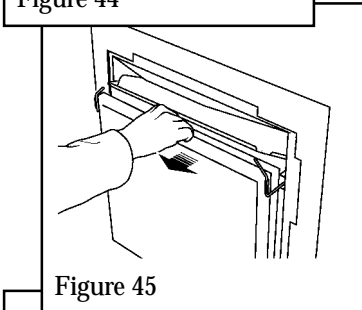

Figure 45
4. Pull the top of the window forward and release to check that the window opens slightly and returns in the event of a delayed ignition explosion. See figure 45.